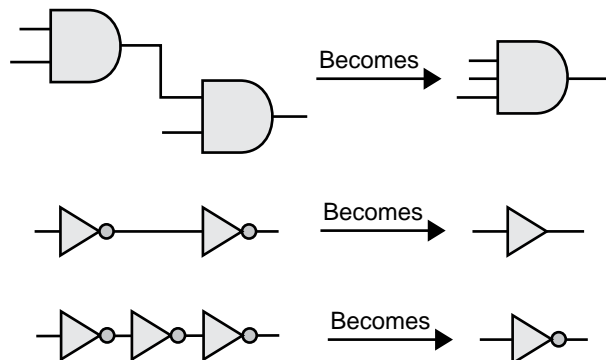

Figure 3-1. Combined Combinatorial Macros
1. It combines two or more combinatorial macros into a single macro. For example, two 2-input AND gates, two inverters, and three inverters respectively, shown in Figure 3-1.